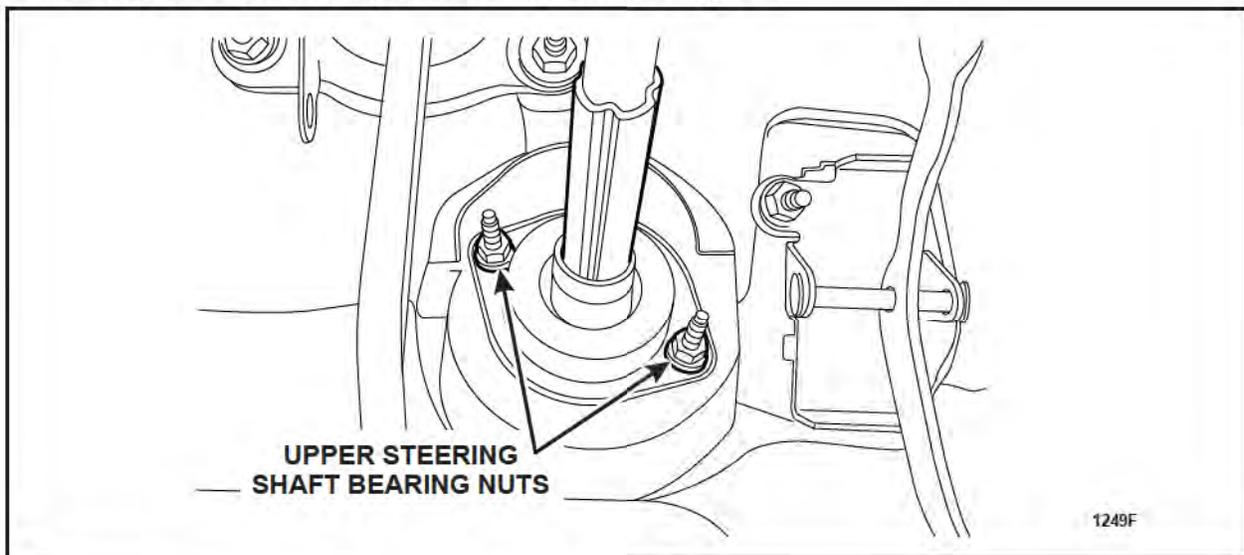

FIGURE 2
3. Remove the 2 upper steering shaft bearing nuts. See Figure 2.